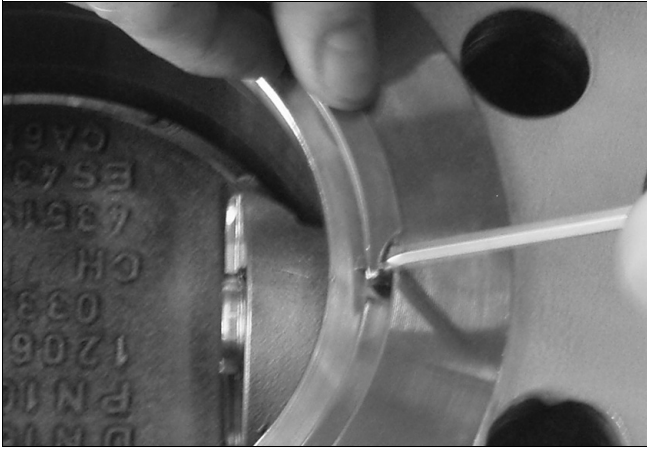
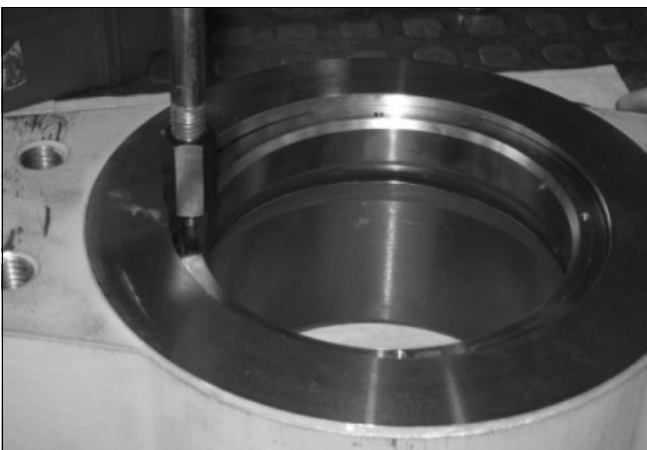

Fig. 27 Loosening the retainer ring
Fig. 29 Extracting the seal
4. Remove the spiral retainer ring (310, see fig. 27 – 28). The seal ring (301) is now freely accessible and can be removed using an extraction tool (see fig. 29). For this purpose, the seal ring features two extraction threads.